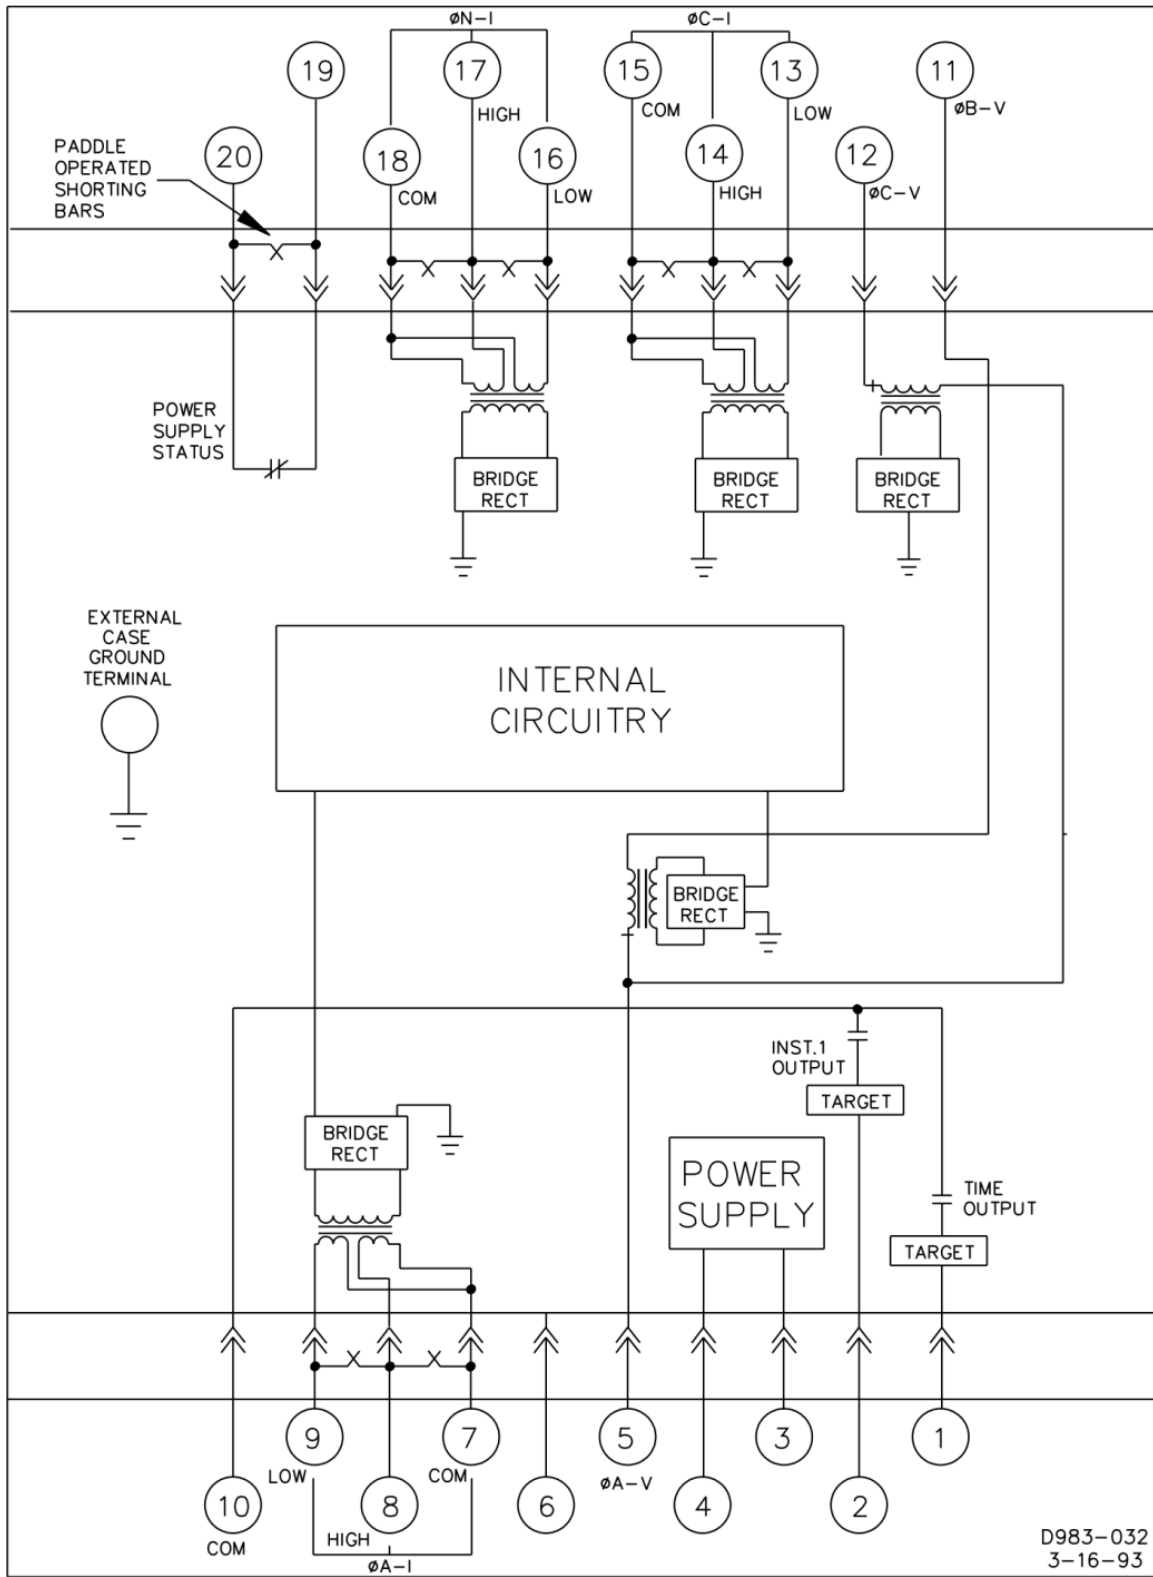

Figure 4-21. Typical Internal Diagram, Sensing Input Type J
- Figure 4-21: Typical Internal Diagram, Sensing Input Type J